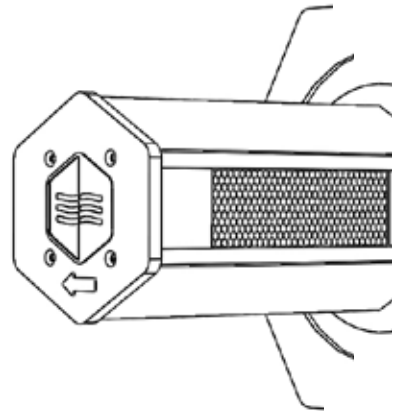

Fig. 2 Orient device in proper airflow direction as indicated.
Be sure to orient the device for proper airflow through the core. Proper airflow direction is indicated by an arrow on the tip of the core. (See Fig. 2)
**Note: Be sure airflow will pass in the proper direction as indicated by the arrow on the top of the core. (See fig.2)**